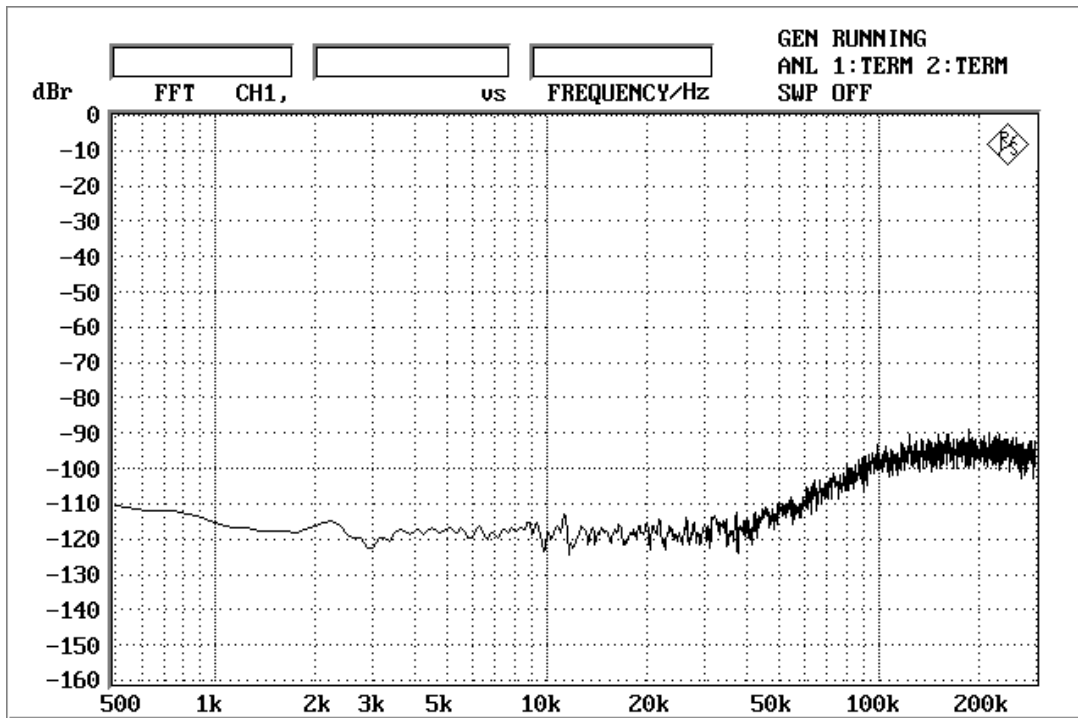

Figure 1-1-9. FFT (out-of-band noise)
- Figure 1-1-9. FFT (out-of-band noise, ~300kHz)